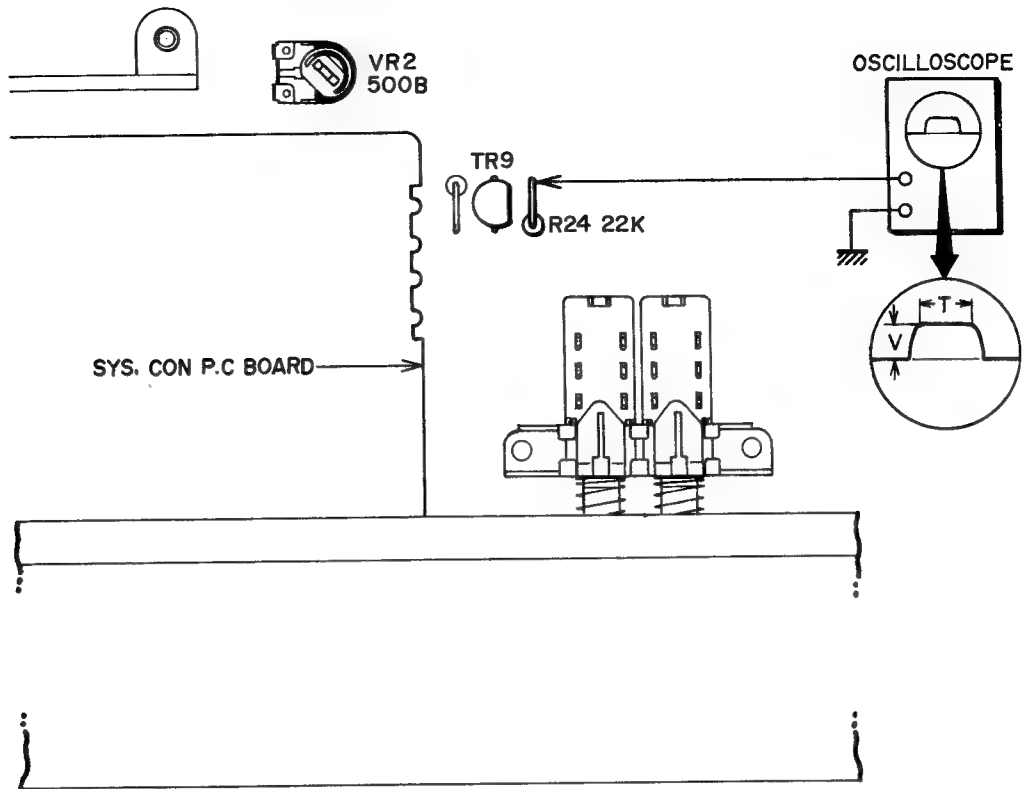

Fig. 11
9. ADJUSTMENT OF DIGITAL COUNTER'S SENSITIVITY (Refer to Fig. 11)